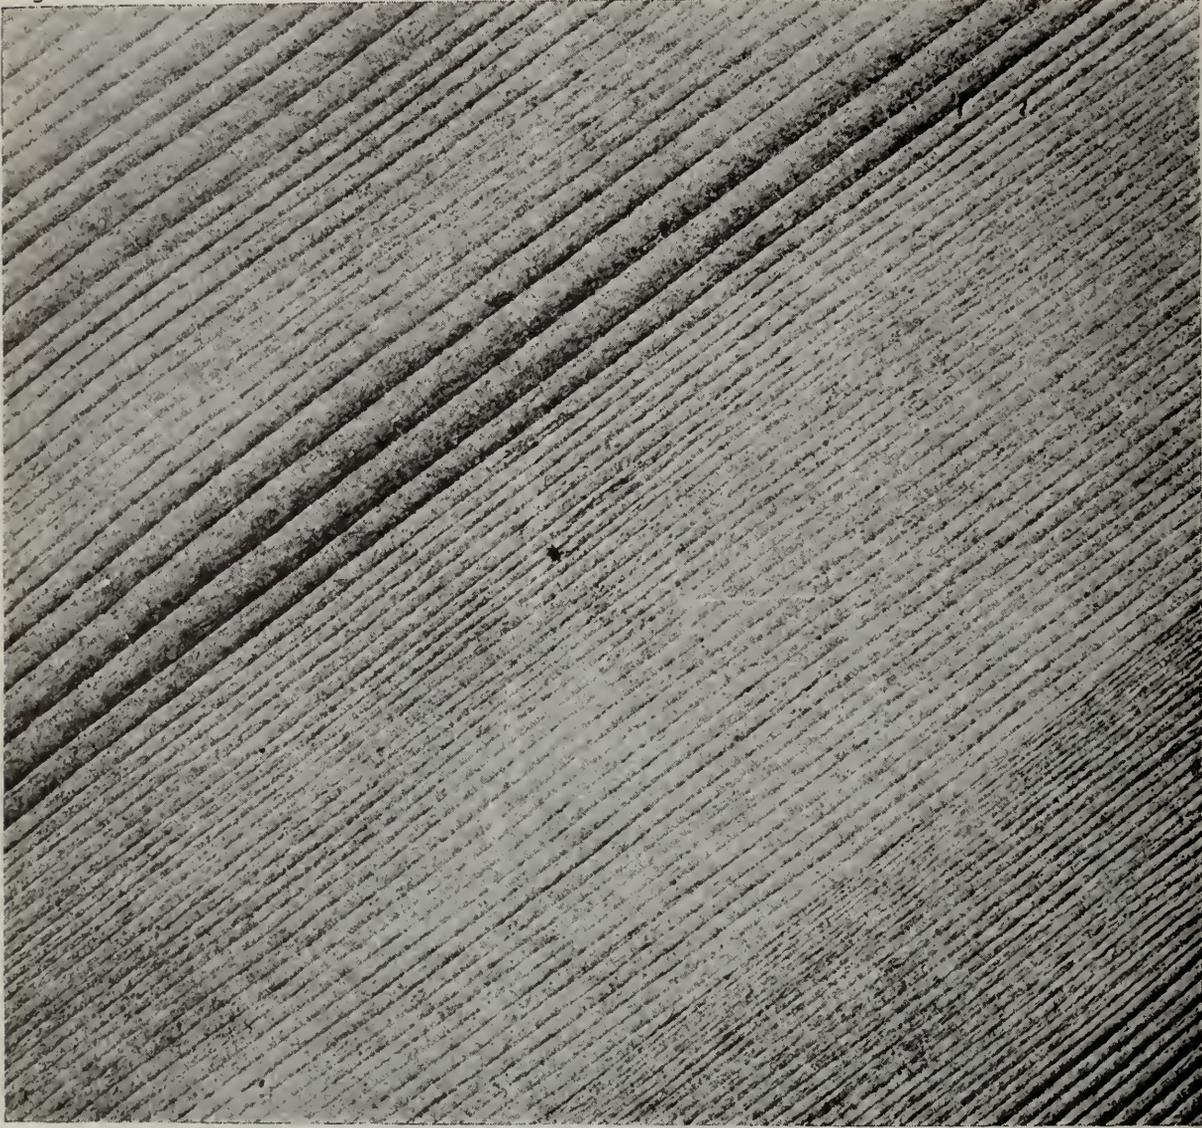

FIG. 26
"This Plate No. 2 shows the grain of that sound board (Fig. 26). This portion here is a resin line that on Plate No. 1 occupied one one-thousandth inch. This line (D), belongs to the resin layer. Here is where the summer or autumn growth is commencing. If this board were throughout like the section (A) in the center of this view, the board would be good. Here is another piece glued on the board to carry out the beautiful pattern effect (B). For about half of its width it would have made an ideal sound board. It is not so much the wood itself but how selected and put together. There is another thing which might take place with this board—that is the relative moisture absorption would be very different. The continued re-occurrence of those resin strips would at all times allow certain sections to absorb moisture more rapidly than others and cause checking.